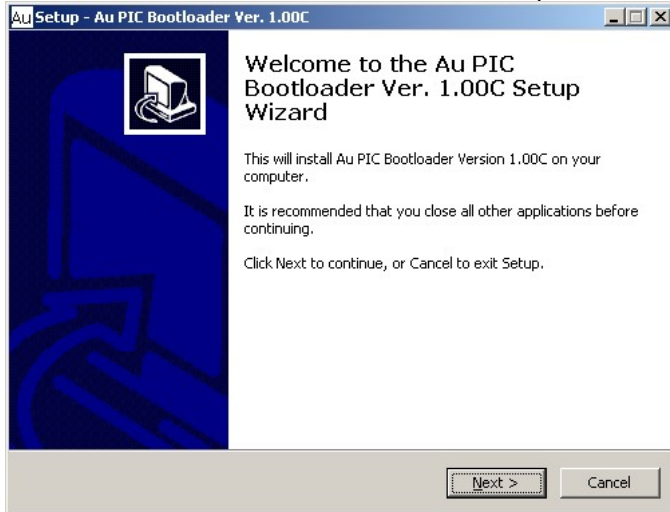

Figure C-2
2. “Welcome to the Au PIC Bootloader Setup Wizard” window will show up, click “Next” (Figure C- 2)